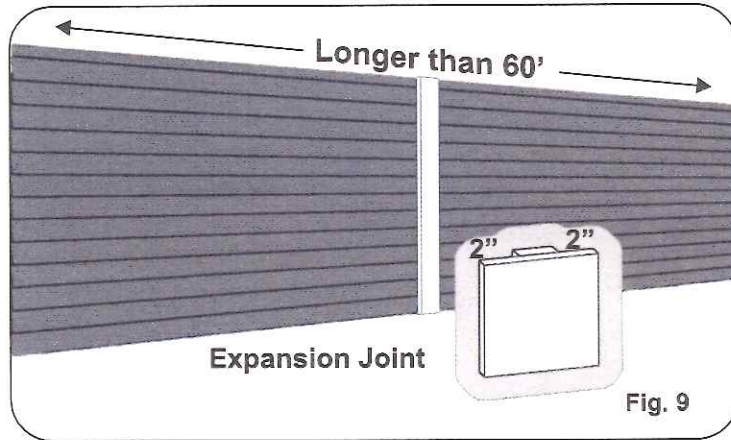

Fig. 9
- Select siding panels can be installed continuously up to 60'. If the siding courses are longer than 60', break the course(s) with an expansion joint. This joint can be fabricated using furring strip and 1'X6" (Fig. 9).